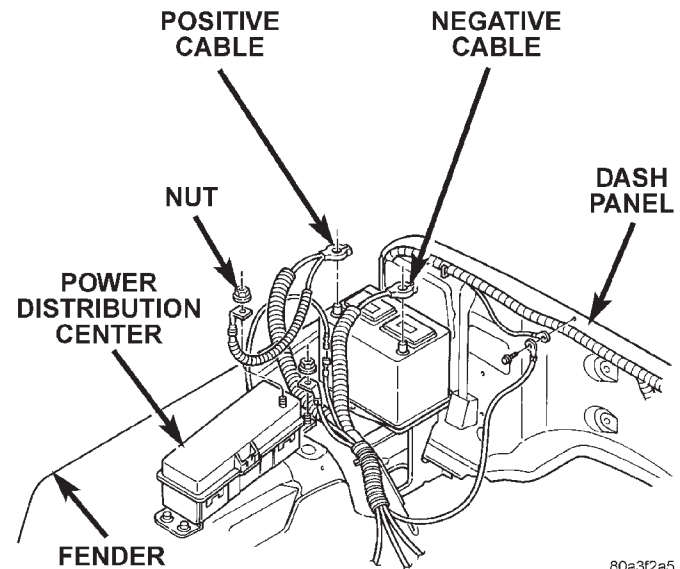

Fig. 29 Power Distribution Center
(1) Disconnect and isolate the battery negative cable.
(2) Remove the cover from the Power Distribution Center (PDC) (Fig. 29).